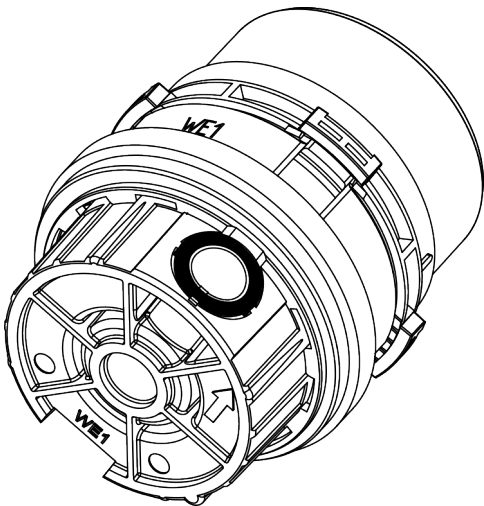

Figure 14. Gasket WE1
2. Check that the gasket on the outlet side of the flow diverter is seated correctly and correct if necessary (Fig. 14).